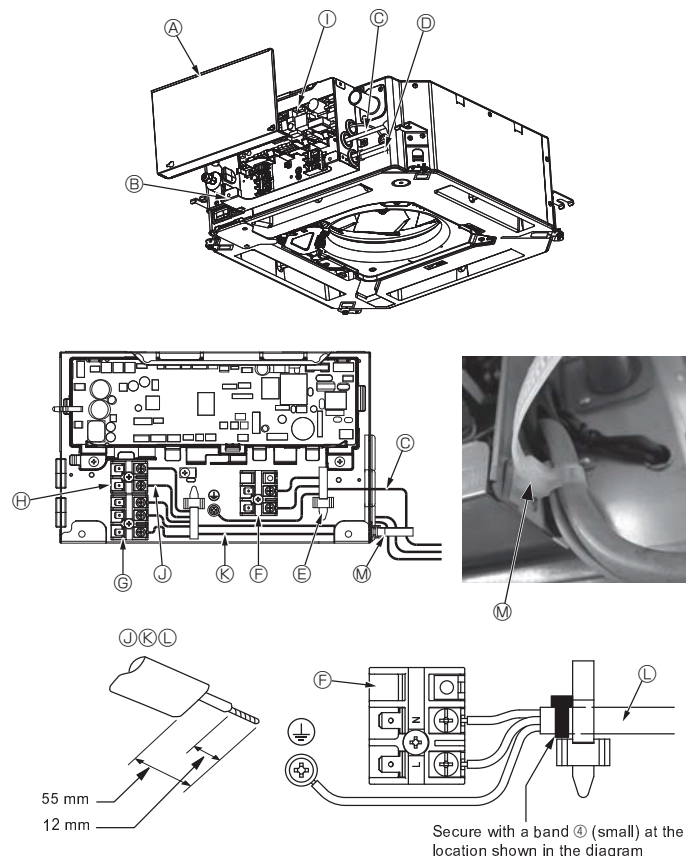
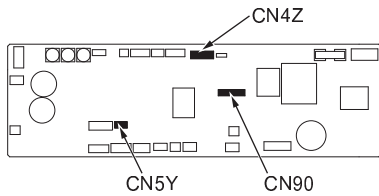
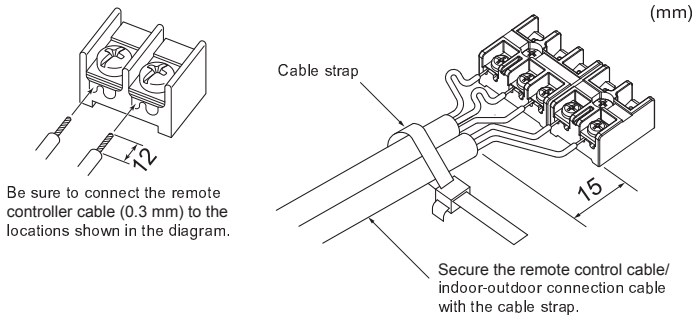

Fig. 4-1
Fig. 4-2
Fig. 4-3
- ① Transparent PVC pipe
- ④ O.D. $\phi 32$ PVC TUBE (Slope 1/100 or more)
4.1. Indoor unit (Fig. 4-1, Fig. 4-2, Fig. 4-3)